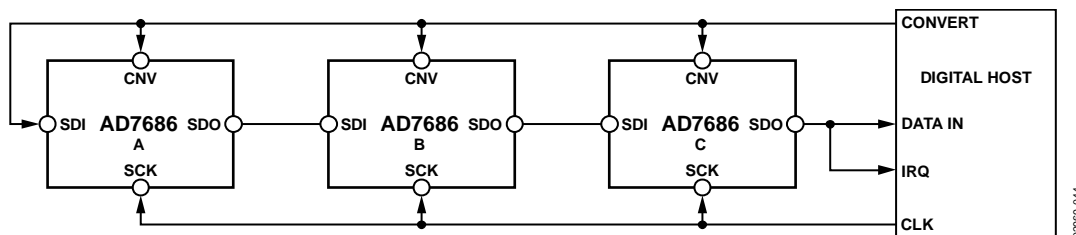
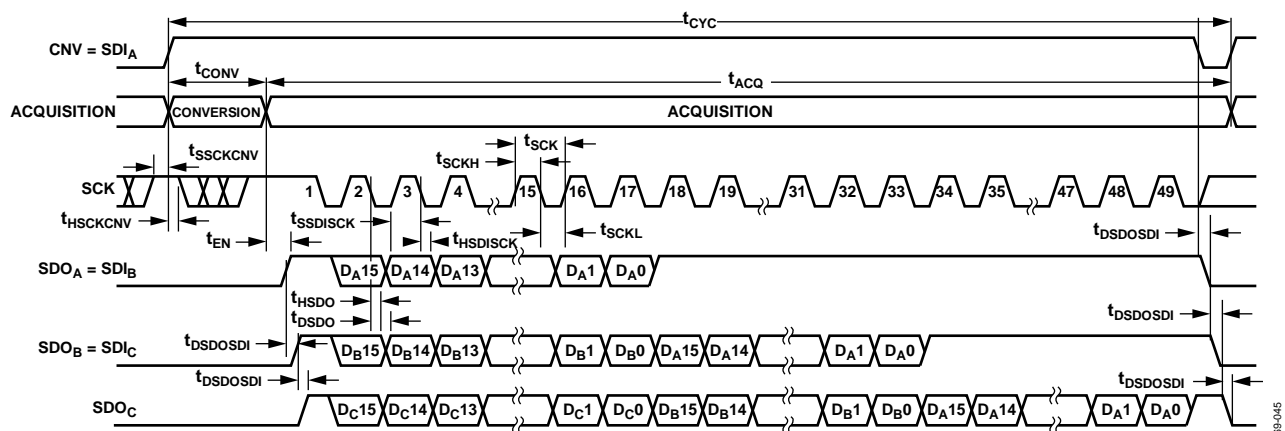

Figure 43. Chain Mode with Busy Indicator Connection Diagram
Figure 44. Chain Mode with Busy Indicator Serial Interface Timing
- In chain mode, if SCK is high during the CNV rising edge (see Figure 44).
This mode can be used to daisy-chain multiple AD7686s on a 3-wire serial interface while providing a busy indicator. This feature is useful for reducing component count and wiring connections, for example, in isolated multiconverter applications or for systems with a limited interfacing capacity. Data readback is analogous to clocking a shift register. A connection diagram example using three AD7686s is shown in Figure 43, and the corresponding timing is given in Figure 44.
When SDI and CNV are low, SDO is driven low. With SCK high, a rising edge on CNV initiates a conversion, selects the chain mode, and enables the busy indicator feature. In this mode, CNV is held high during the conversion phase and the subsequent data readback. When all ADCs in the chain have completed their conversions, the near-end ADC (ADC C in Figure 43) SDO is driven high.